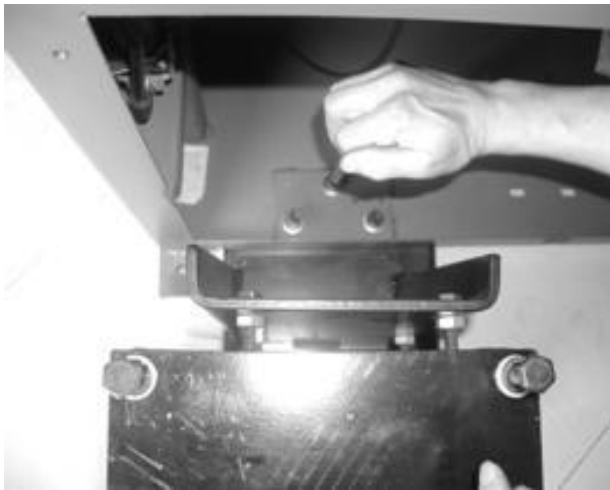

Fig 7-2
7.1.3 Push the platform of the base plate of the base assembly into the body through base plate on the left-back side of the body. Align the thread hole to the reinforce hole and use the bolt and washer to fix. (fig7-2) .